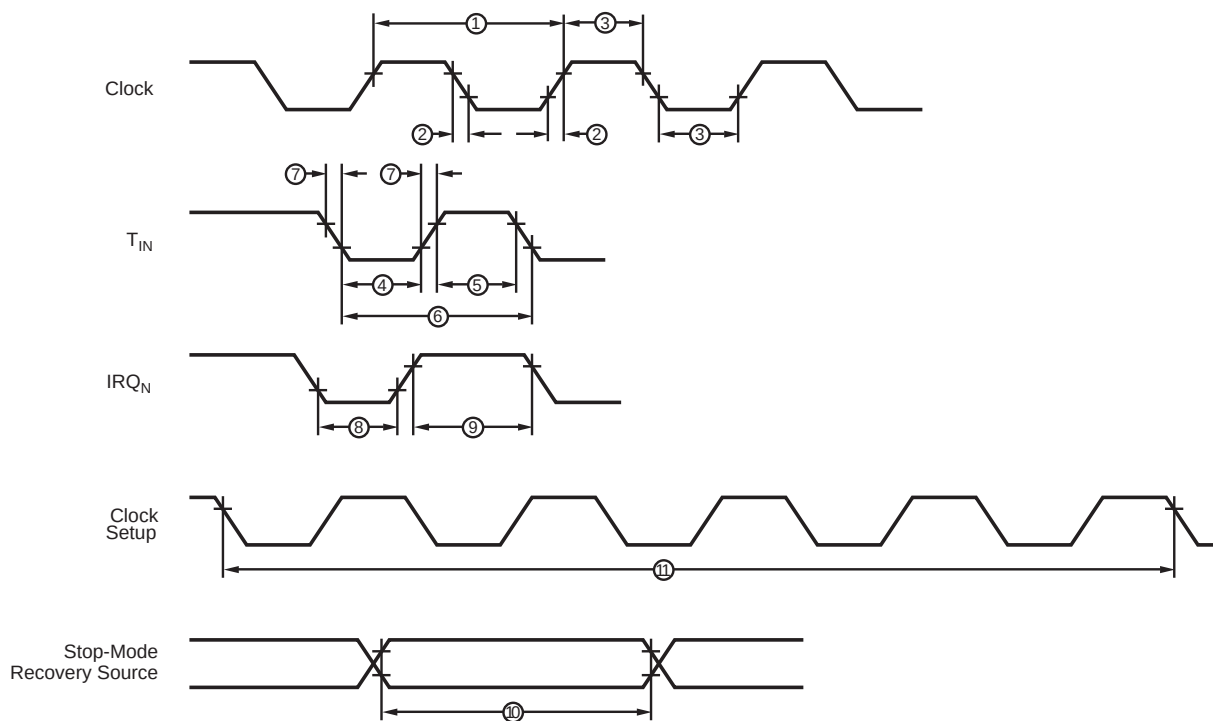

Figure 40. AC Timing Diagram
Figure 40 and Table 61 on page 123 describe the Alternating Current (AC) characteristics.